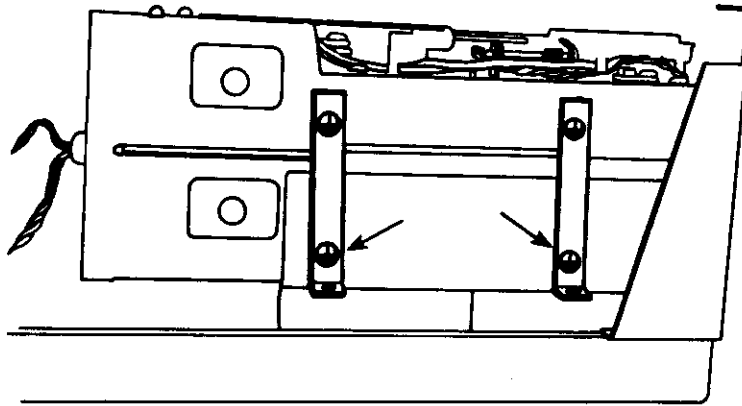

Figure 3-2A: MD I/MD III Drive Removal - Revision B and C Chassis
2. Remove the two bottom screws from the brackets on the left (see Figure 3-2A).